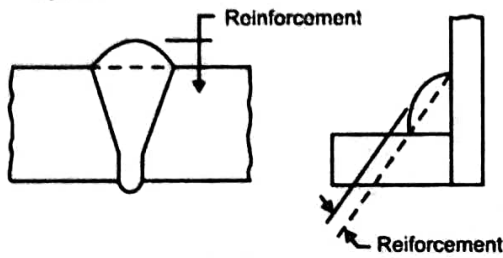

Fig. 5.48. Reinforcement
**Reinforcement :** It is the metal on the face of the weld which is higher than the surrounding parent metal or it is the metal lying outside the plane joining the toes. (Fig. 5.48).